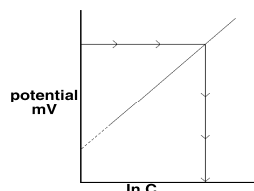

Figure 3
A graph of the natural log of concentration ( $\ln C$ ) vs. potential ( $V$ ) can be plotted (see Figure 3).
- Using the voltage reading and the principle described in Figure 3, the natural log of concentration of the specific ion can be determined.